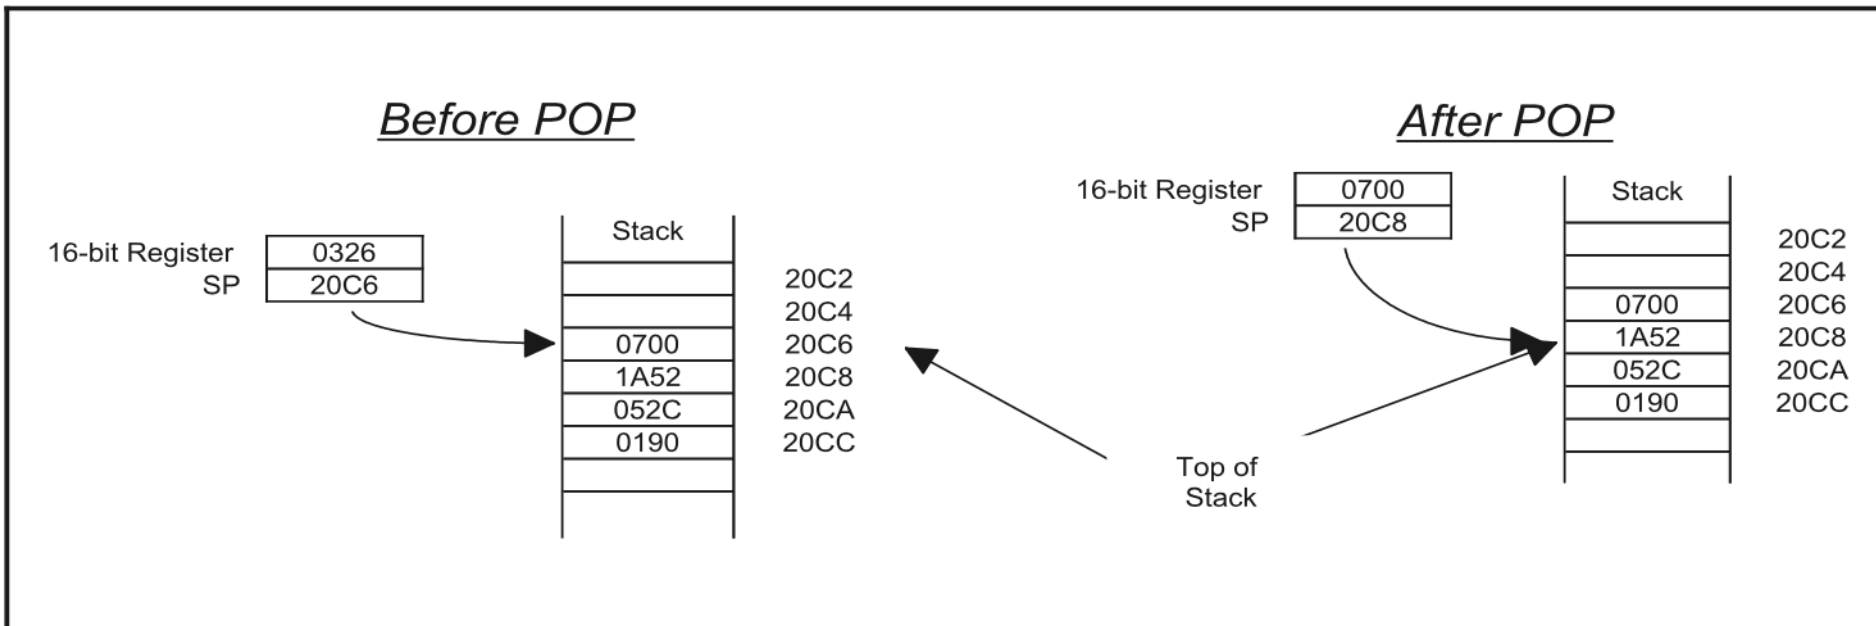

FIGURE 2.15 POP operation when accessing a stack from the top.
- Finally, consider the POP operation of Figure 2.15. The Stack pointer is incremented by 2 after the POP. The contents of address 20C6 are assumed to be empty conceptually after a POP operation.